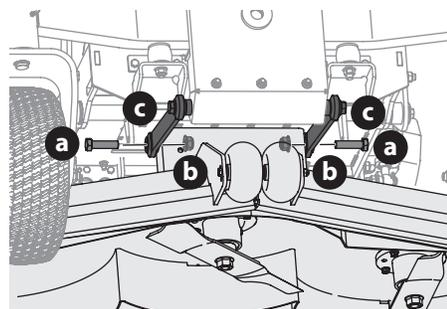

Figure 51
5. Remove the hex screws (a) and flange lock nuts (b) securing the front deck control rods (c) to the deck (Figure 51).